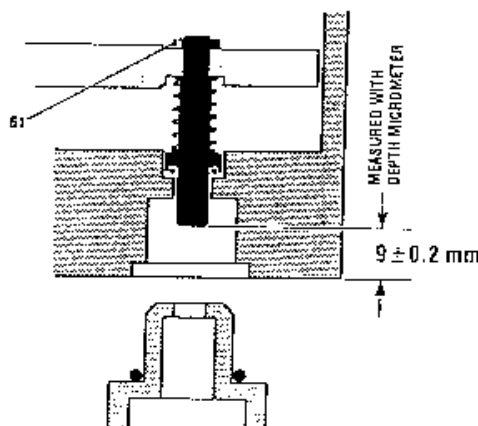

Fig. 3.24 Checking The Depth Of The Actuator Spindles
3.9 Checking The Depth Of The Actuator Spindles (Fig. 3.24)
4. If either actuator spindle depth indication is not 9 ± 0.2 mm in either test, release the locknut (61) and adjust the incorrect spindle depth to 9 ± 0.2 mm.
5. Torque tighten the spindle locknuts (61) to 1.0 Nm and repeat the procedure until a satisfactory result is obtained.